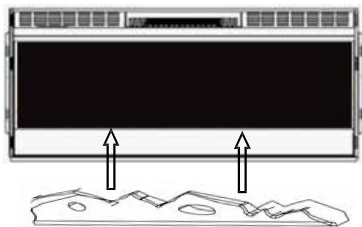

Figure 6-1
- B. To use log-set, remove the log-set from the package and set on the log-set designated space. **Figure 6-1.**